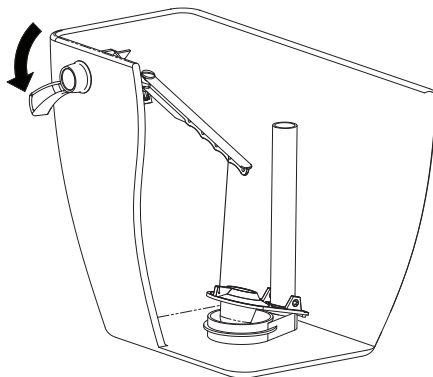

FIGURE 8
- Test the function of the Tank Lever: Pressing down on the Handle will partially lift the flapper (See Fig. 8). Lifting the Handle up will fully lift the flapper (See Fig. 9).